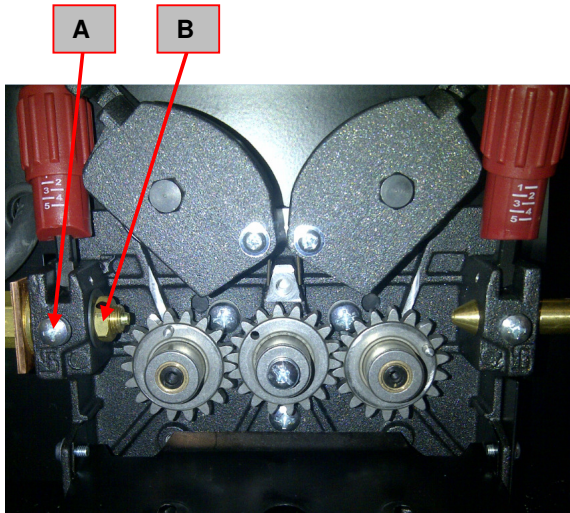

Figure 10
4. Using the phillips screwdriver remove the screw (**A**). See **Figure 10**.
5. Using the 14mm wrench remove the nut (**B**) and washer. See **Figure 10**.